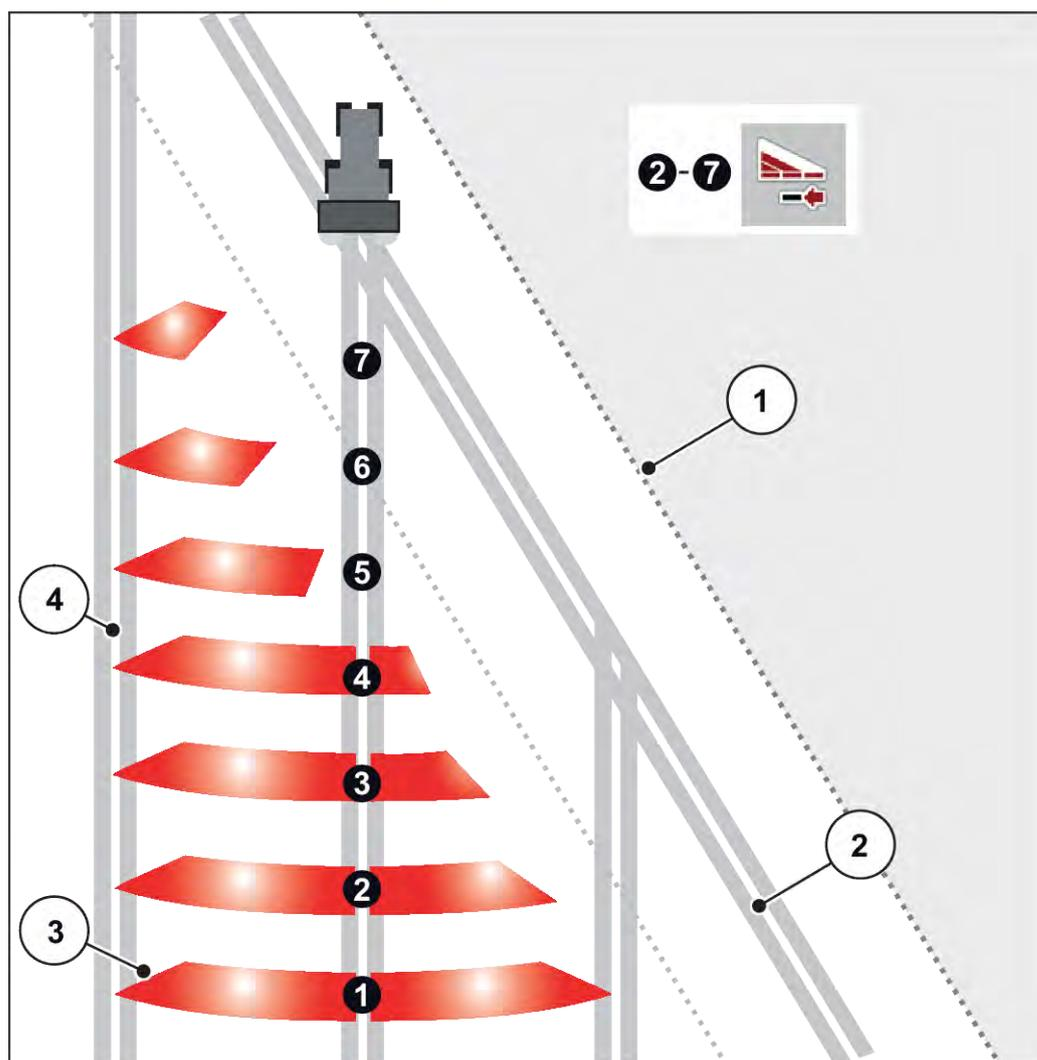

Fig. 47: Automatic section control
- Section control is possible from the outside to the inside or vice versa. See *Fig. 47 Automatic section control*